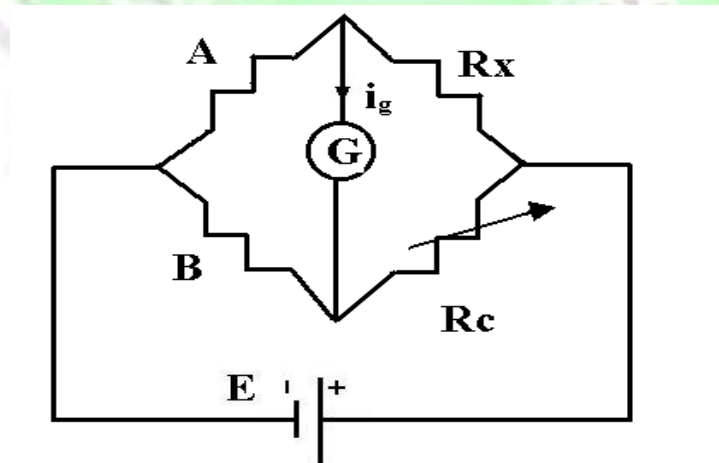

Fig. 7
- 1- Wire the circuit as shown in Fig 7.